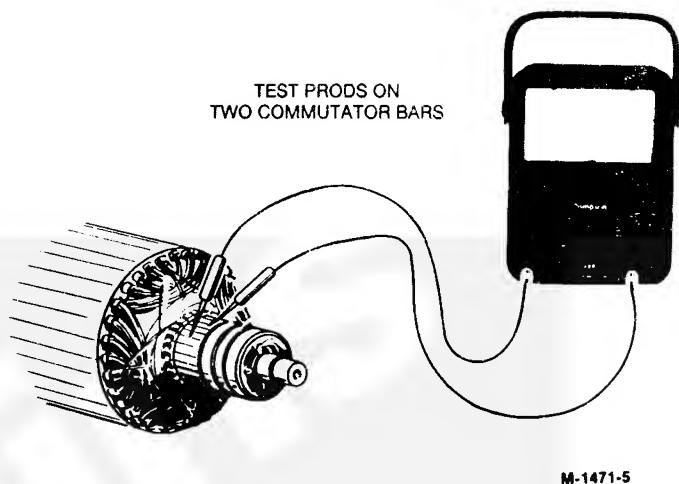

FIGURE 8-6. ARMATURE DC OPEN TEST
- Measure the resistance between one of the commutator bars and each of the other bars in turn, all the way around (Figure 8-6).